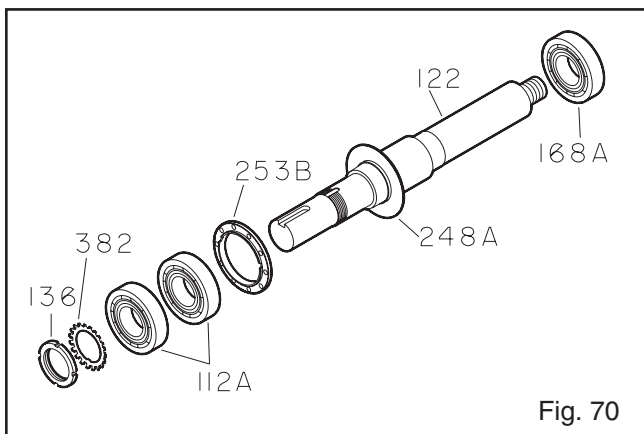

Fig. 70
- Remove bearing housing O-ring (496).
- Remove inboard bearing (168A) (Fig. 70).